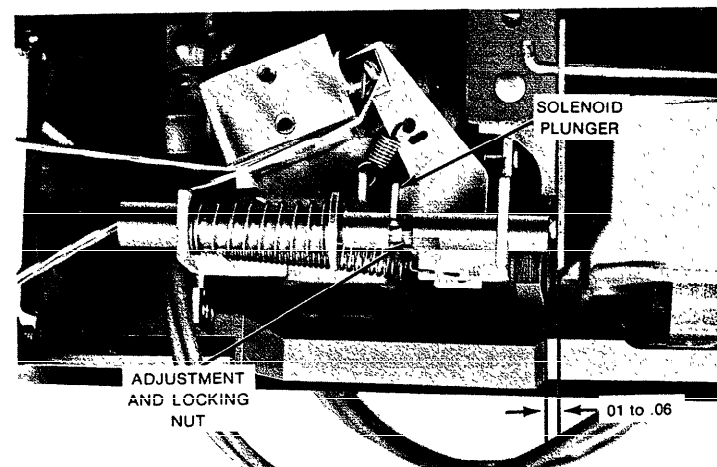

Figure 5
5. Adjust to dimension shown in Fig. 5 with circuit breaker in the ON position. (Solenoid plunger must be held in on undervoltage release.)
3. Being careful to keep hands and fingers clear of breaker contact arms, pull solenoid plunger (see Figure 5). Breaker should trip. If not, retrace step 5.
2. Holding coil plunger in solenoid (Figure 5) turn breaker ON.